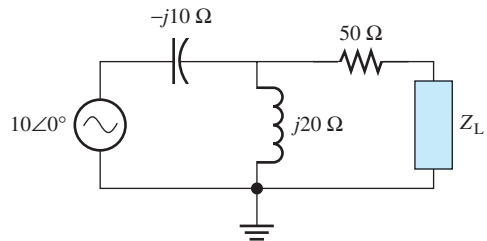

FIGURE P6.64 Circuit for Problem 6.64.
- 6.64** (A)* Consider the circuit shown in Figure P6.64. Determine the maximum average power that can be delivered to the load if (1) the load is pure resistance and (2) the load is the combination of resistance, inductance, and capacitance.